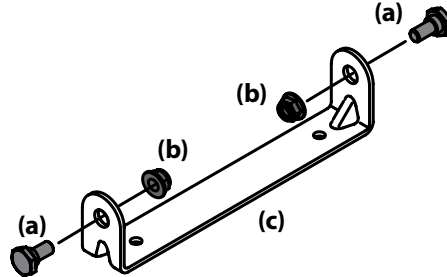

Figure 2-5
- Remove the shoulder bolts (a) and lock nuts (b) from the seat mounting bracket (c) included in your hardware pack. See Figure 2-5.